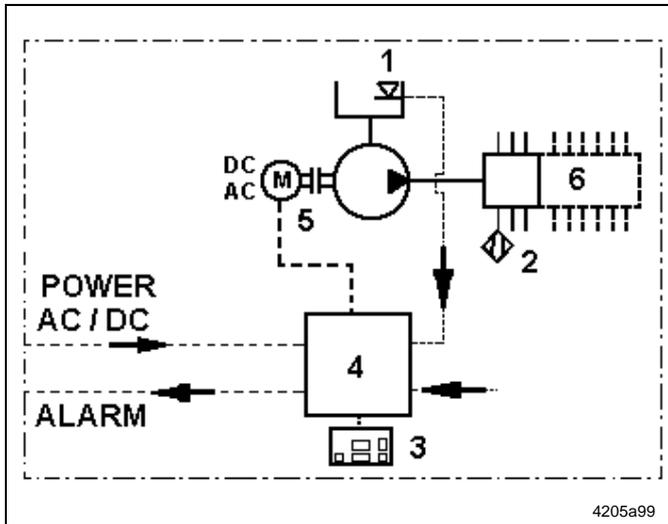

Fig. 20 QLS 301, schematic
- SSV metering device bottom-mounted (see Fig. 20)